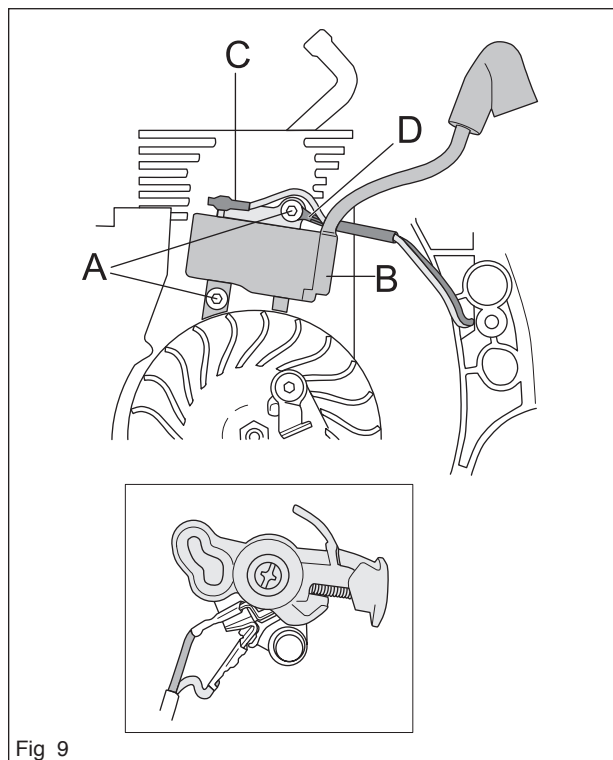

Fig 9
If replacing the ignition module (B), loosen the cable lug (C) and screw (A) and unscrew it. The ignition module can be left in place if you are simply removing the flywheel (see figure 9).
When replacing the cables, they are fitted on the stop switch, as shown in figure (see figure 9).